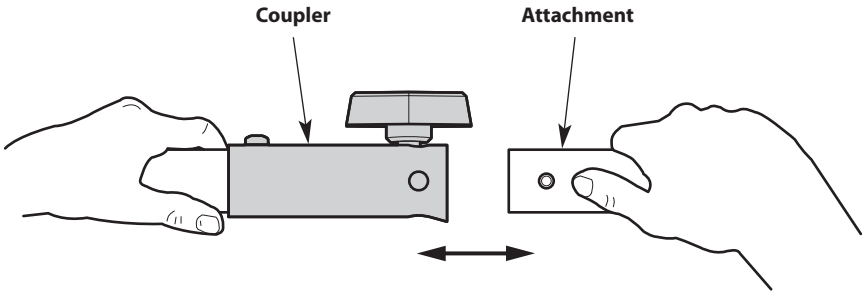
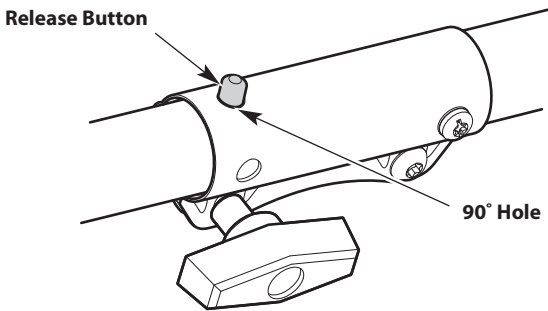

Fig. 2
Fig. 3
4. Push the attachment straight into the coupler (Fig. 2) until the release button snaps firmly into the 90° hole (Fig. 3).
3. Press and hold the release button (Fig. 3).
4. Pull the attachment straight out of the coupler (Fig. 2).